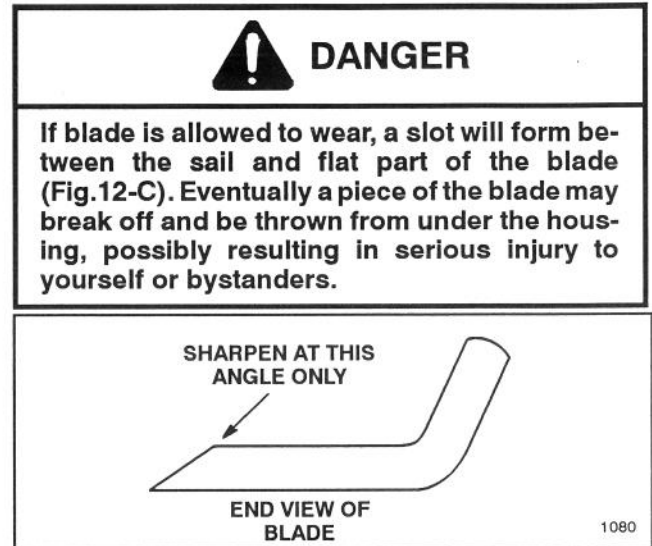

Figure 13
2. Examine cutting edges of all blade(s). Sharpen the cutting edges if they are dull or nicked. Sharpen only the top of the cutting edge and maintain the original cutting angle to make sure of sharpness (Fig. 13). The blade will remain balanced if same amount of metal is removed from both cutting edges.